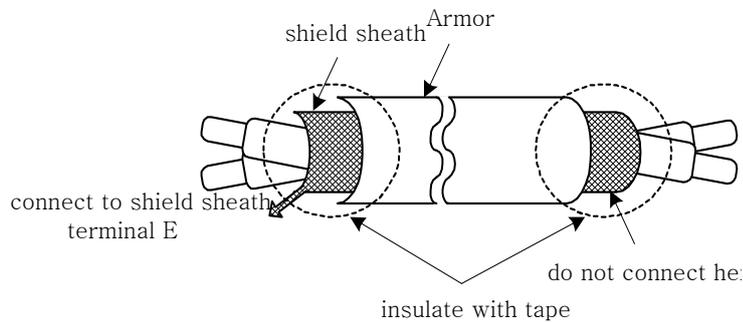

Fig 3 Processing the ends of twisted-pair cables
- (1) Separate the control circuit wiring from main circuit wiring (R · S · T · U · V · W) and other high-power lines to avoid noise interruption.
- (2) Separate the wiring for control circuit terminals RA · RB · RC (contact output) from wiring for terminals (1) ~ (8), A01, A02, GND, DO1, DO2, DOG and 15V, VIN, AIN, AUX, GND, IP12, IG12, A (+), A (-).
- (3) Use the twisted-pair or shielded twisted-pair cables for control circuits to prevent operating faults. Process the cable ends as shown in Fig 3. The max. wiring distance should not exceed 50 meter.